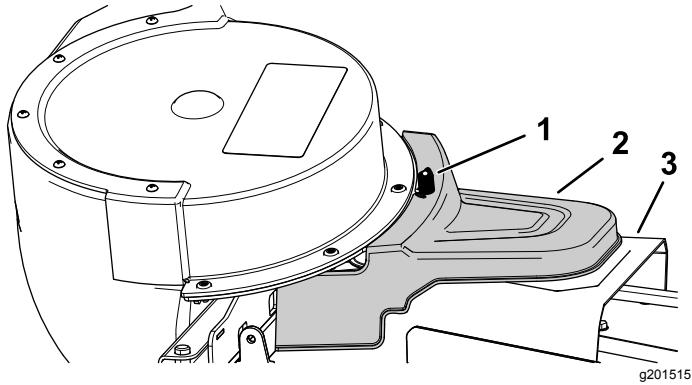

Figure 2
3. Remove the knob shown in Figure 2.